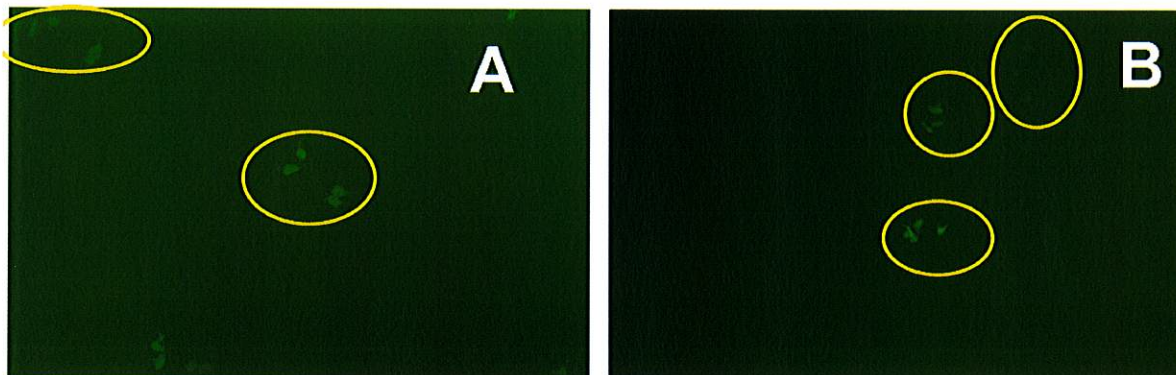

Figure 14. Examples of individual colonies
15. Count the TurboGFP expressing cells or colonies of cells (Figure 14).
Count each multi-cell colony as 1 transduced cell, as the cells will be dividing over the 48 hour culture period. Figure 14 illustrates this principle of counting.